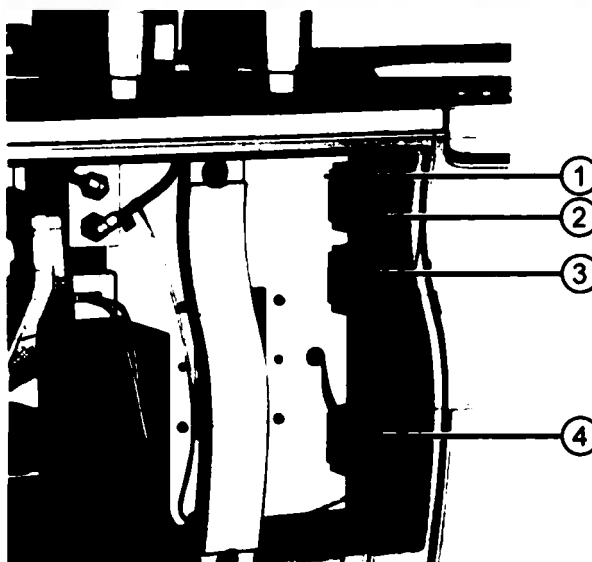

Figure 117 Connecting the peristaltic pump tubes
Insert a tube into each peristaltic pump. To insert the tube into head of the peristaltic pump release the pressure on the head by pulling the clamp (1) upward, see Figure 117.